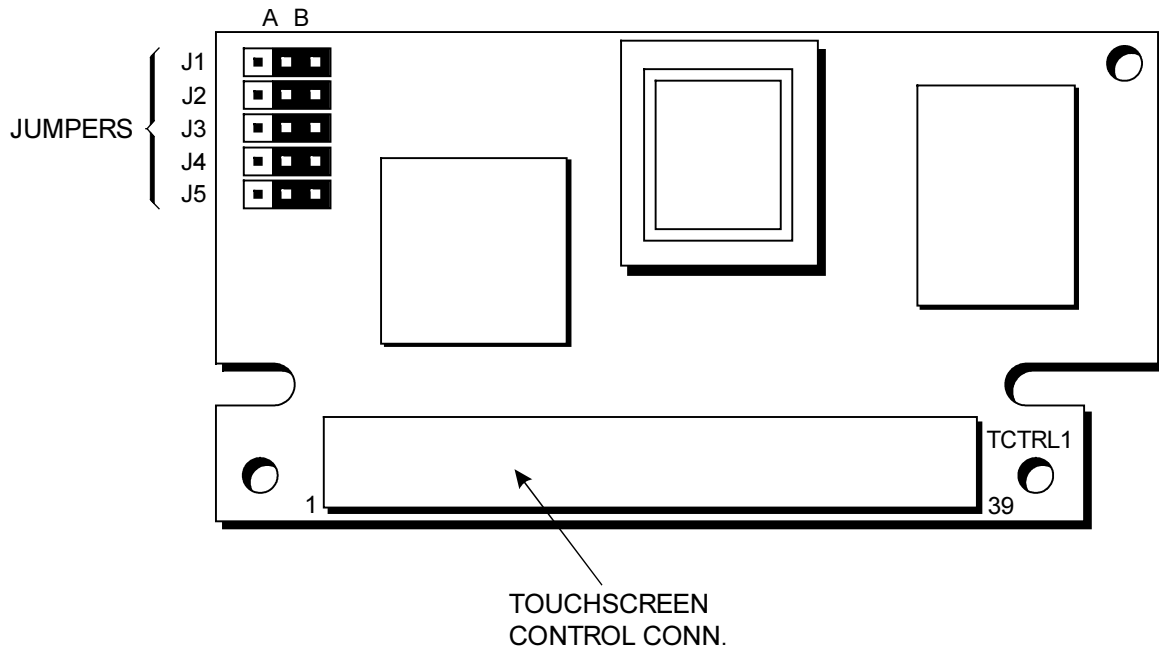

Figure 3-18. Touchscreen controller card
3. Remove the touchscreen controller card (see Figure 3-18).